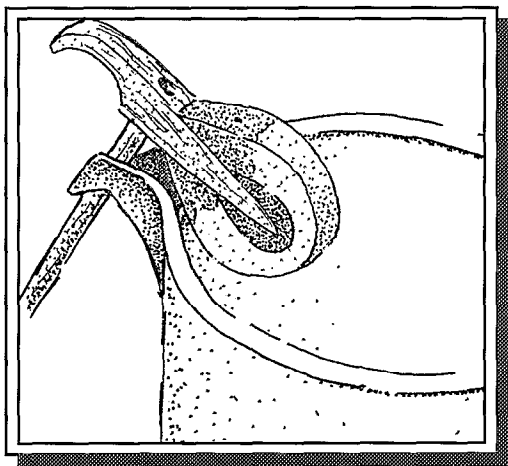

Figure 1 — Hammer head in spout of a Regal #7427 Hot Pot, cover removed for illustrative purposes.
**Danny Dover:** A thousand thanks for your tip on steaming hard hammers to bring down the brightness. It works beautifully, and so fast! Just a split second for each hammer in the spout, with a good head of steam (See Figure 1).